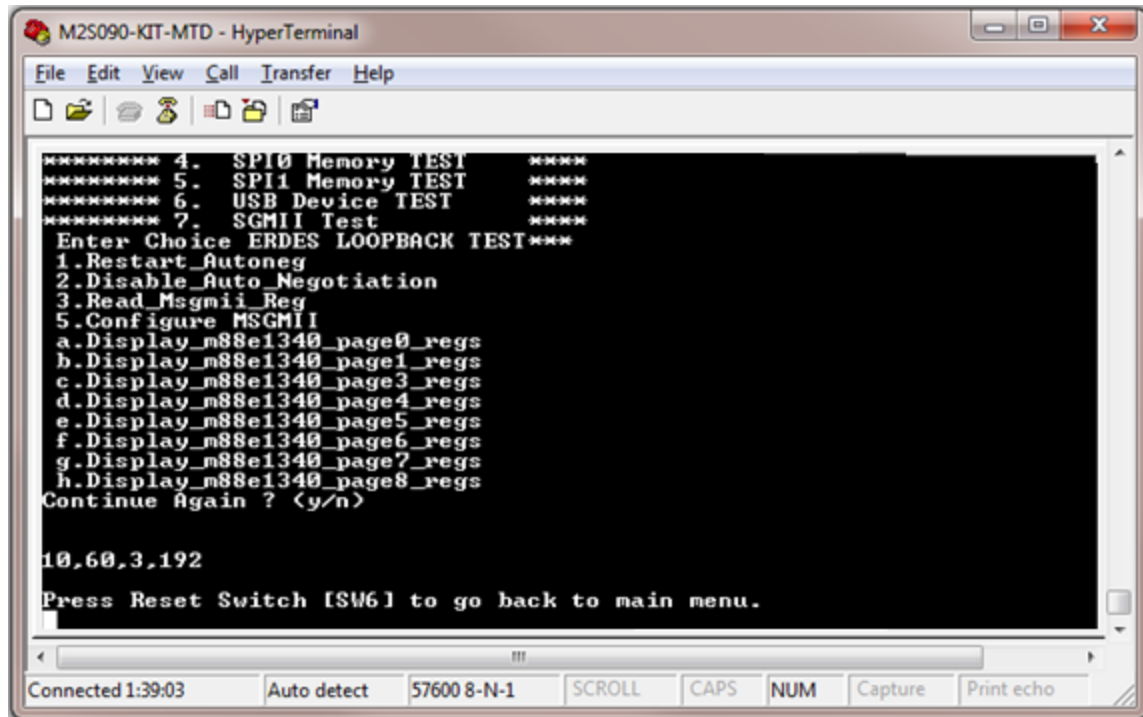

Figure 51 SGMII Test Passed
- c. A confirmation message is displayed, Press **n** twice. Refer to Figure 51. When the test is passed, the IP address of the Host PC is displayed.
22. Press **2** on terminal window and then press **y** to repeat the SGMII test. Refer to Figure 51.
23. Press **n** twice on the HyperTerminal window. The Host PC's IP address will be displayed. Refer to Figure 51.